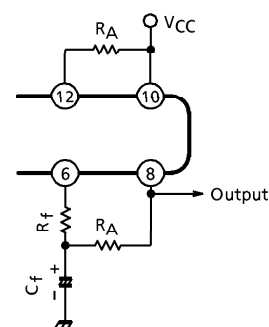

Fig.3
1) In case of the battery use ($V_{CC} \leq 6V$), this IC happens to oscillate (blocking oscillation) when the impedance of power supply is high. In this case, it is recommended to insert the resistance R_A of $500\Omega \sim 1k\Omega$ between ⑩pin and ⑫pin (V_{CC} - Filter II). By this method, this IC becomes very stable. But the output DC voltage is not center by the influence of R_A . Then the output wave shape is not symmetrical clipping wave and the maximum output voltage is reduced. So we recommend to insert the other resistance R_B between ⑥pin and ⑧pin for compensating the output DC voltage.
2) When you use this IC at the supply voltage of more than 6V, it is better to insert the resistance R_B for compensating output DC voltage. (Fig.3)